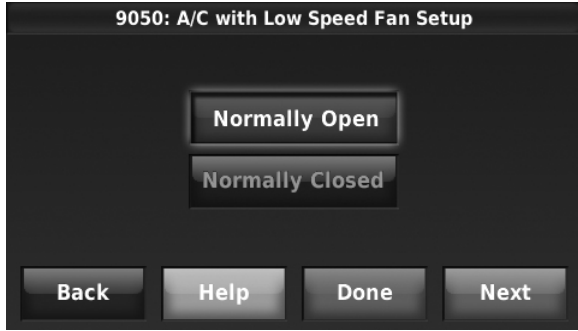

Fig. 244.
5. Select whether the U1, U2, or U3 terminals are Normally Open or Normally Closed. See Fig. 244.